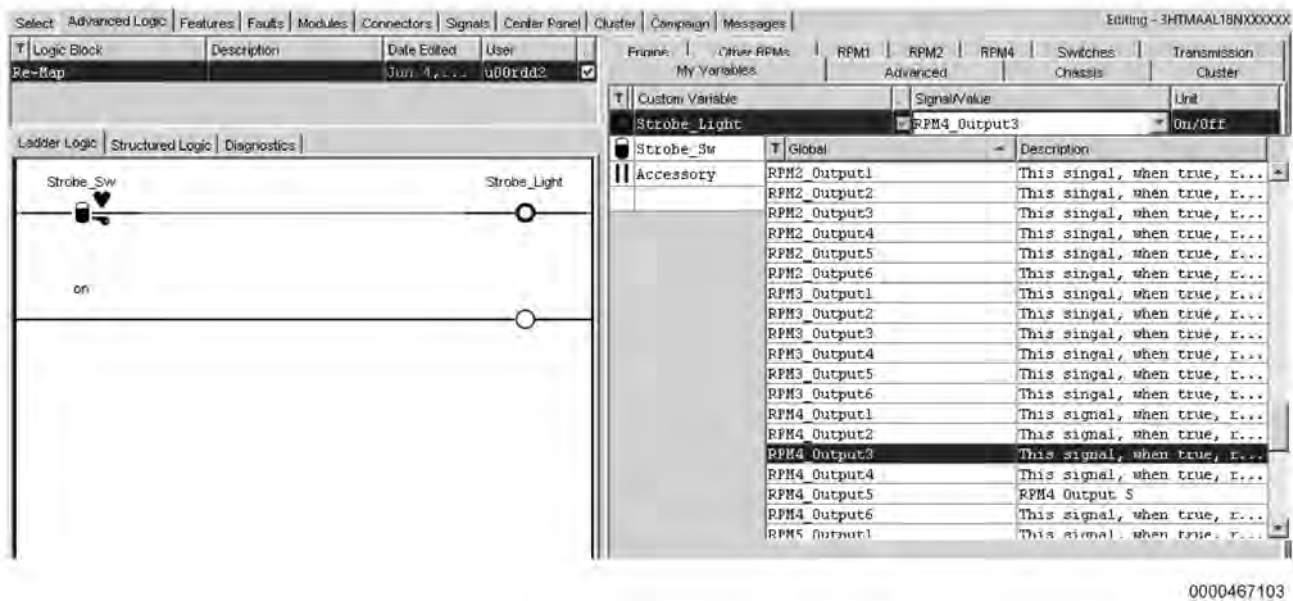

Figure 21 New Output for Signal
5. Select the new output pin (Figure 21).